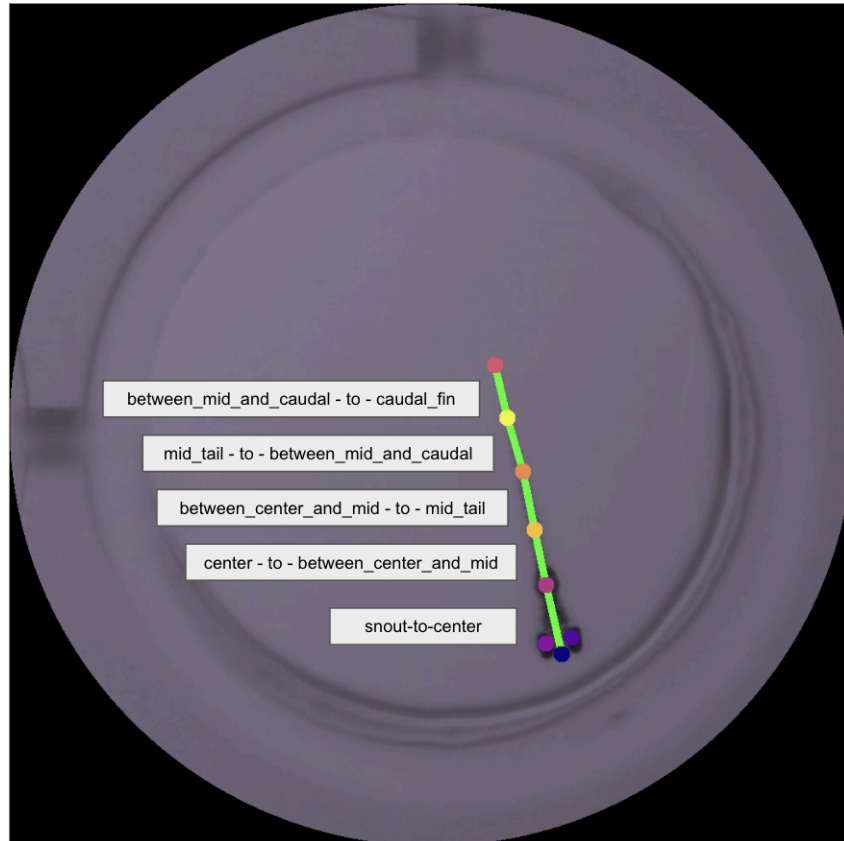

Fig 56: Fish length segments diagrammed on a specimen.
A function for computing fish length is included in the MCAM Zebrafish Analysis package. Five skeleton segments are defined using the eight key point tracking model and the lengths of these segments are computed using euclidean distance for each frame. The **median** value of each segment across all frames is selected as the computed length for each segment in order to filter out extreme values that may exist from one frame of faulty tracking. The five (5) segments of interest here (Fig 56) are the: